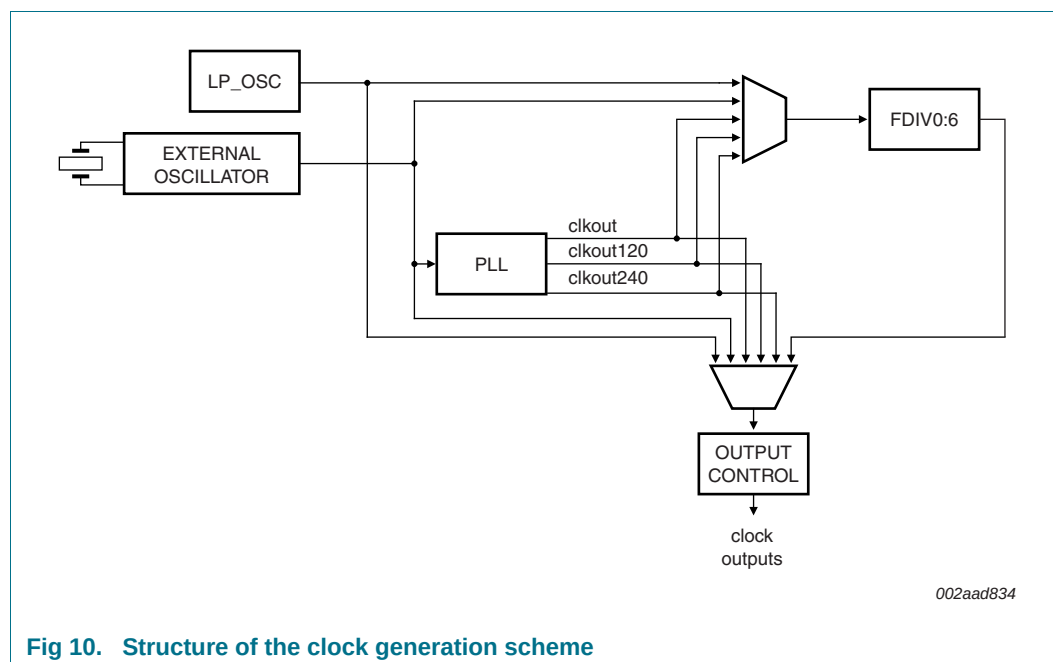

**Fig 10. Structure of the clock generation scheme**
**Configuration of the CGU0:** For every output generator generating the base clocks a choice can be made from the primary and secondary clock generators according to Figure 10.